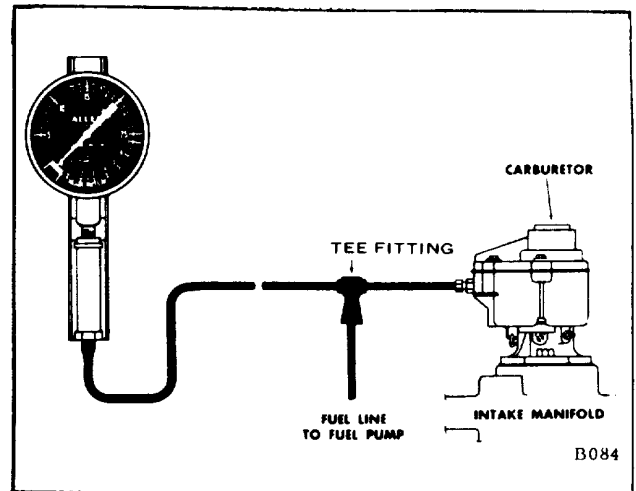

Figure 8.
1. Disconnect the gasoline line at the carburetor, and insert a "T" fitting between the carburetor and the fuel line. (Fig. 8)